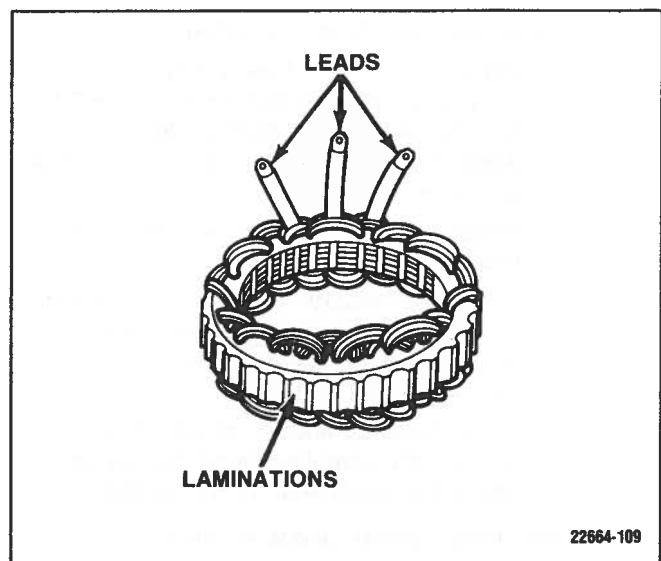

Figure 6-134. Stator Windings
- a. Using an ohmmeter or test lamp, check for continuity between all three leads (1, 2, and 3). A low ohm reading or lit test lamp should be observed. (Figure 6-134)
- b. Check resistance from each lead (1, 2, and 3) to the laminations (4). There should be no continuity if the insulation is good.